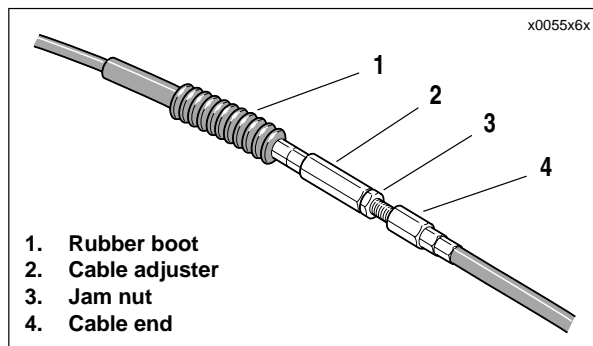

Figure 2-94. Clutch Cable Adjuster Mechanism
8. See Figure 2-94. Slide clutch cable adjuster boot (1) up to access clutch adjuster (2).
9. Loosen clutch adjuster (2) to release tension from hand lever and clutch release mechanism.